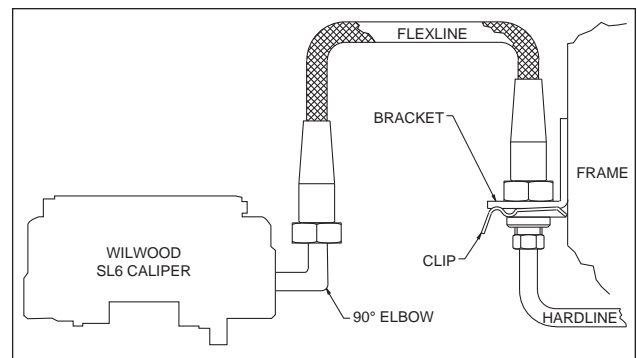

Figure 4. Brake Line Diagram
- **NOTE:** OEM rubber brake hoses generally cannot be adapted to Wilwood calipers. The caliper inlet fitting is a 1/8-27 NPT. The preferred method is to use steel adapter fittings at the caliper, either straight, 45 or 90 degree and enough steel braided line to allow for full suspension travel and turning radius, lock to lock. **Carefully route lines to prevent contact with moving suspension, brake or wheel components.** Wilwood hose kits are designed for use in many different vehicle applications and it is the installer's responsibility to properly route and ensure adequate clearance and retention for brake hose components. Wilwood offers a hose kit, P/N 220-8176 (figure 4), which includes hoses, fittings, etc., all in one package for this application.